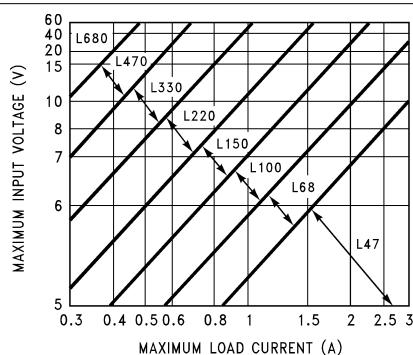
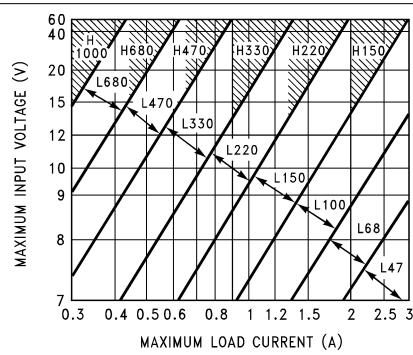
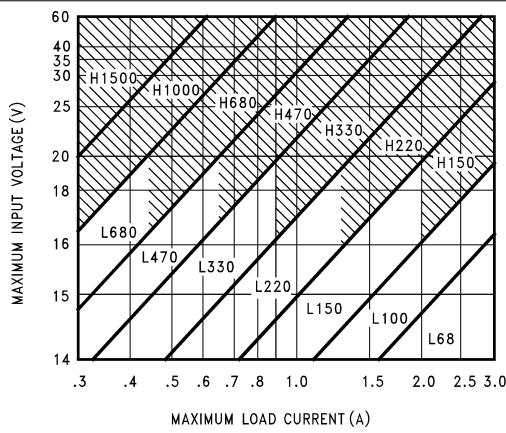
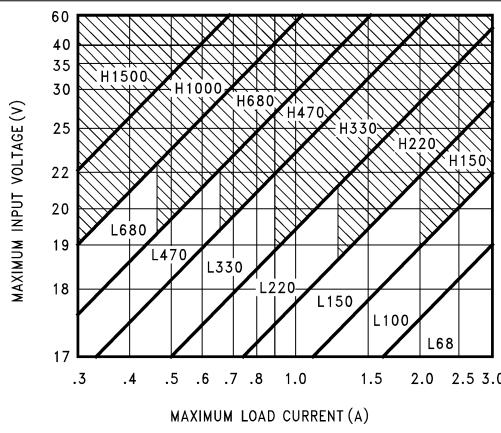

Figure 8-4. LM2576(HV)-3.3
Figure 8-5. LM2576(HV)-5.0
Figure 8-6. LM2576(HV)-12
Figure 8-7. LM2576(HV)-15
The inductor value selection guides in Figure 8-4 through Figure 8-8 are designed for buck regulator designs of the continuous inductor current type. When using inductor values shown in the inductor selection guide, the peak-to-peak inductor ripple current is approximately 20% to 30% of the maximum DC current. With relatively heavy load currents, the circuit operates in the continuous mode (inductor current always flowing), but under light load conditions, the circuit is forced to the discontinuous mode (inductor current falls to zero for a period of time). This discontinuous mode of operation is perfectly acceptable. For light loads (less than approximately 300 mA), it can be desirable to operate the regulator in the discontinuous mode, primarily because of the lower inductor values required for the discontinuous mode.
1. Select the correct Inductor value selection guide from Figure 8-4, Figure 8-5, Figure 8-6, or Figure 8-7. (Output voltages of 3.3 V, 5 V, 12 V or 15 V respectively). For other output voltages, see the design procedure for the adjustable version. Use the selection guide shown in Figure 8-5.
3. Identify the inductor value from the inductor code, and select an appropriate inductor from the table shown in Figure 8-4. Part numbers are listed for three inductor manufacturers. The inductor chosen must be rated for operation at the LM2576 switching frequency (52 kHz) and for a current rating of $1.15 \times I_{LOAD}$. For additional inductor information, see Section 8.1.2. Inductor value required is 100 μ H from the table in Figure 8-4. Choose AIE 415-0930, Pulse Engineering PE92108, or Renco RL2444.